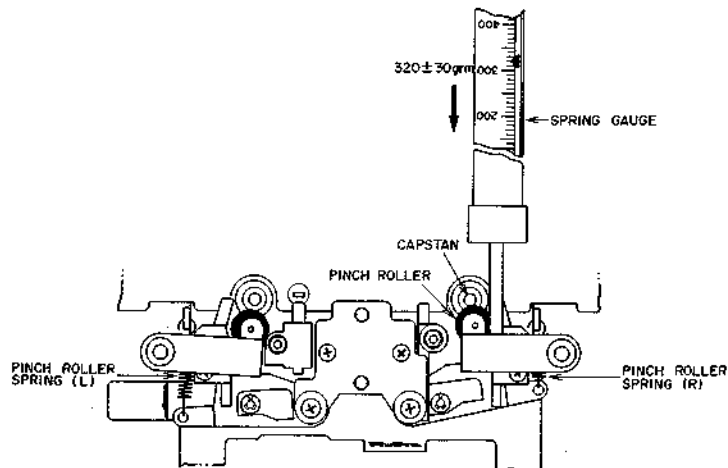

Fig. 15
6. PINCH ROLLER PRESSURE MEASUREMENT (Refer to Fig. 15)